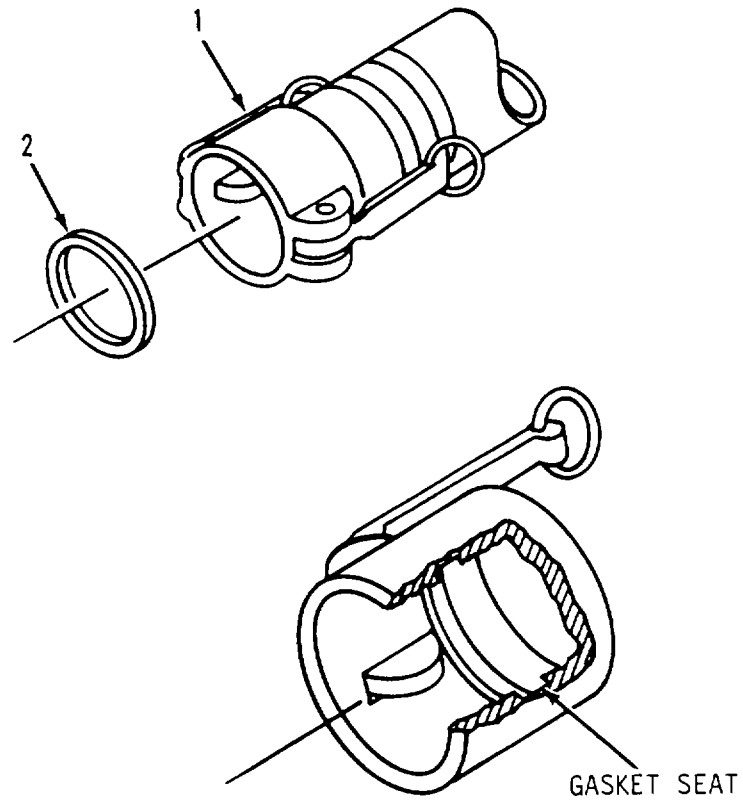

Figure 3-3. Quick Disconnect Repair.
a. Removal. Refer to figure 3-3.
- (1) Disconnect female coupling (1) from water system (para 2-11d).
- (2) Pull gasket (2) from interior of female coupling (1).
b. Installation. Refer to figure 3-3.
- (1) Using clean wiping rag, remove grit, sand, and dirt from gasket seat inside female coupling (1).
- (2) Position replacement gasket (2) in female coupling (1).
- (3) Press gasket (2) into gasket seat inside female coupling (1). There will be no ripples or bumps in gasket material when gasket is properly installed.
- (4) Connect female coupling (1) to water system (para. 2-11d).
- (5) Startup water system (para 2-13c) and test female coupling (1) for leaks.